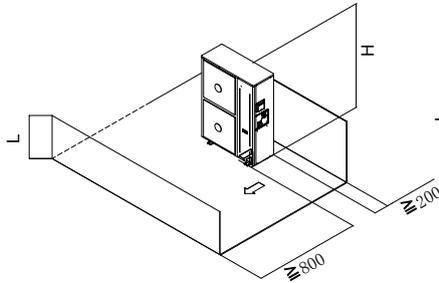

Figure 15
a. Single unit installation (see Figure 15)